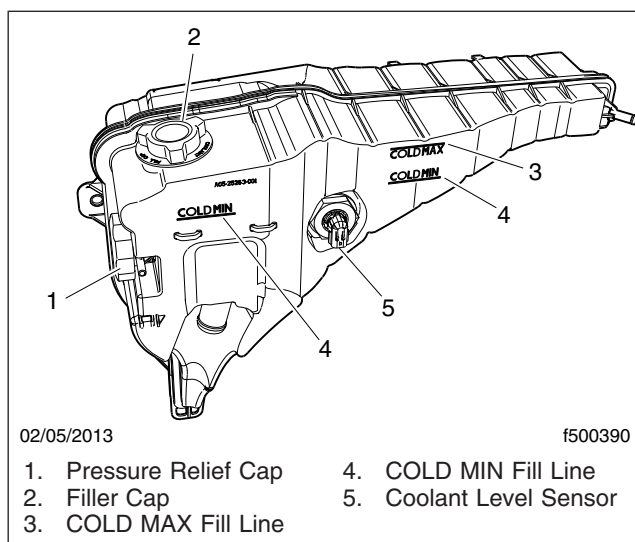

Fig. 21.6, Coolant Surge Tank
5. Check the engine coolant level in the radiator surge tank. See **Fig. 21.6**.